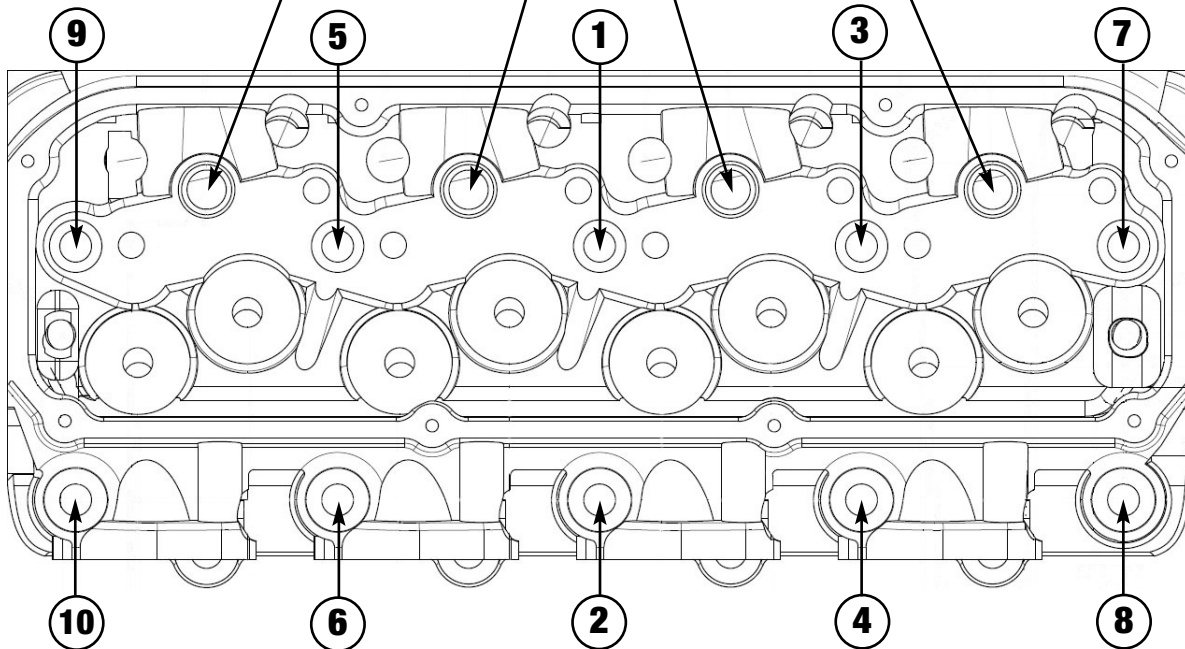

FIGURE 1 - CONVENTIONAL TEN (10) BOLT TORQUE SEQUENCE
- **HEAD BOLTS OR STUDS:** High quality 1/2" head studs or head bolts with hardened washers must be used to prevent galling of the aluminum bolt bosses. The head bolt boss heights and required bolt lengths are listed in the "Specifications" section on Page 3. **See Figure 1** for the cylinder head bolt tightening sequence. Bolt threads, underside of bolt heads, and washers should be lubricated with an oil/moly mix prior to installation and torquing. Apply liquid Teflon PST or suitable thread sealant on any bolt threads that go into coolant passages.
Installation is the same as for original equipment cylinder heads. Consult service manual for specific procedures, if necessary. Be sure that the surface of the block and the surface of the head are thoroughly cleaned to remove any oily film before installation. Use alcohol or lacquer thinner on a lint-free rag to clean. Apply oil or suitable thread lubricant to head bolt threads and the underside of bolt heads and washers to prevent galling and improper torque readings. Apply liquid Teflon PST or other suitable thread sealant on any bolt threads that go into coolant passages. Torque 1/2" bolts or stud nuts to 100-110 ft./lbs. in three step increments, following the tightening sequence shown in **Figure 1**. A re-torque is recommended after the initial star-up and cool-down (allow 2-3 hours for adequate cooling).